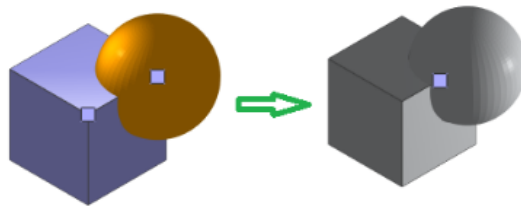

Figure 7.37 Union operation
(1) Union: All parts of the two operating areas are merged, as shown in Figure 7.37.